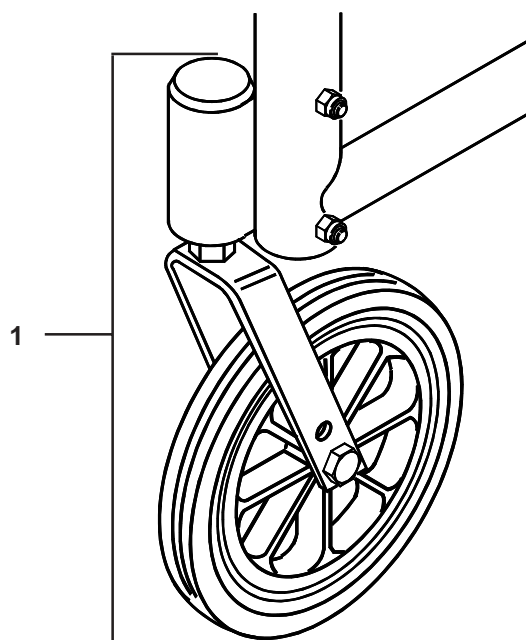

Fig. 45
To inside mount the castors (Fig. 45), reverse the positions of the castor assemblies. Remove the castor assemblies (1) from the frame (noting their positions). Inside mount the right castor on the left side and the left castor on the right side. For correct refitting follow the instructions on page 32, Fig. 42 (Castor angle adjustment), ensuring that the castors are at the correct angle and the retaining nuts and bolts are tightened to the correct torque setting 8-10Nm.